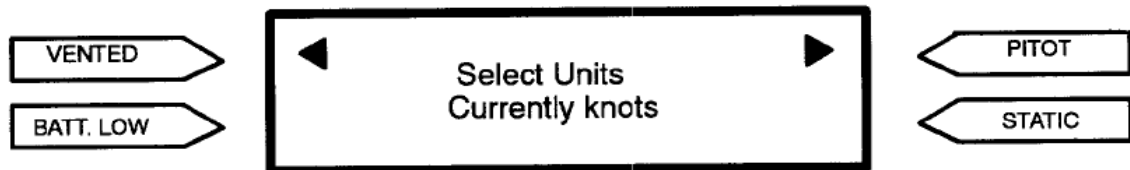

Figure 8 Selecting Units of Measurement
- C. Once the mode has been selected, press START. The screen prompts the Operator to select the preferred units of measurement for the test. The first time the PSLT operates the default units are knots (*Figure 8*). Thereafter the default units are the last units selected in previous tests. The SEL key is used to select different units. Press once to select inches of mercury (inHg) and twice to select millibar (mbar). Pressing a third time returns the display to knots. If the Static mode has been selected, a fourth option of feet is available, appearing after millibar.